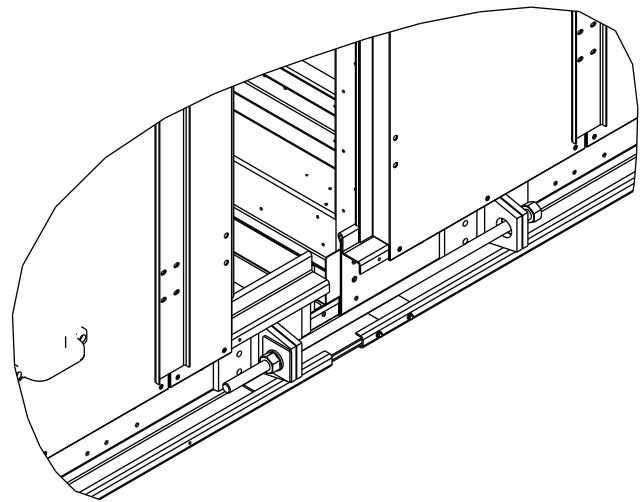

Fig. 62 — Secure Base Rails
10. Using 3/4-in. x 30-in. threaded rod, nuts, washers and backing plates provided, pull and secure the base rails together. See Fig. 62.